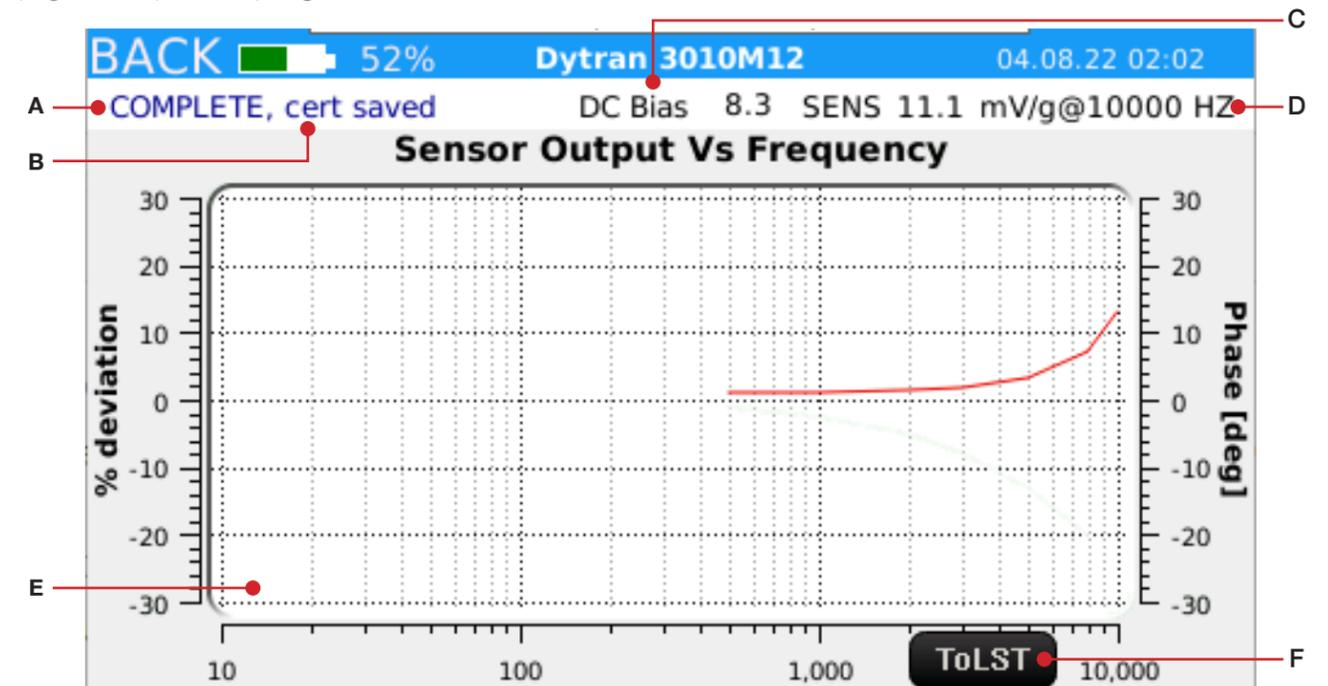
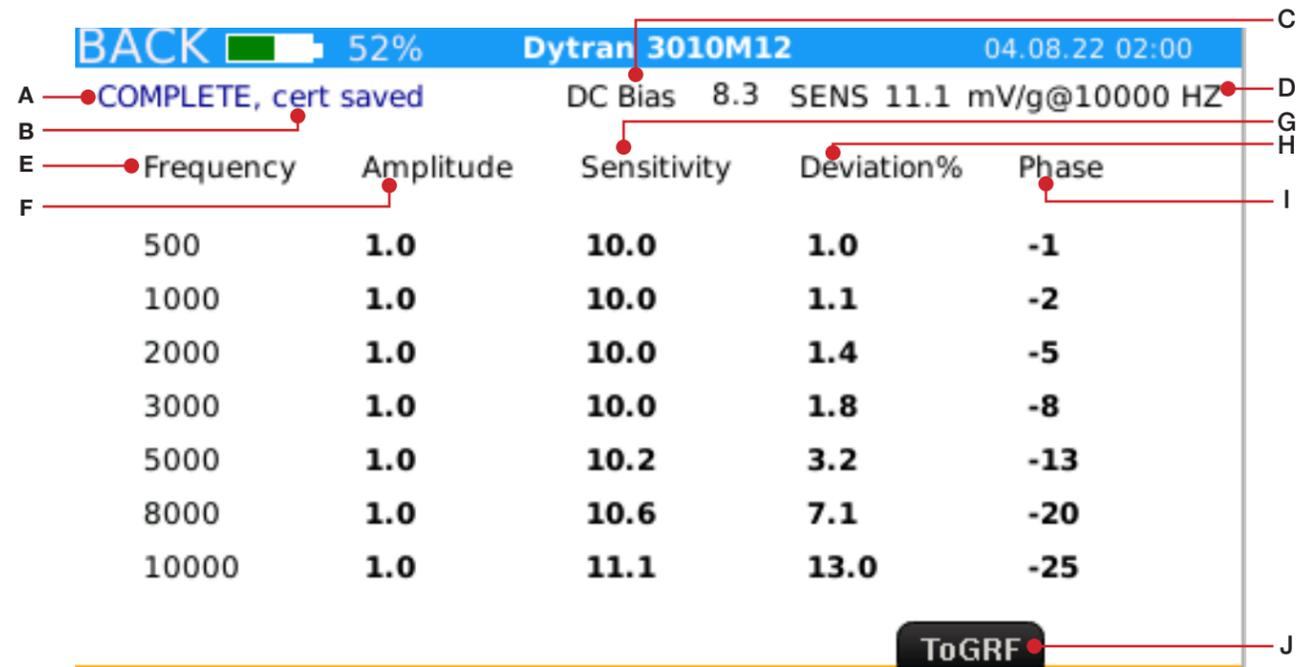

Figure 19. Automatic testing screen – graph view
Figure 20. Automatic testing screen – table view
During an automatic test, the test status bar at the top and the graph (*Figure 19*) or table (*Figure 20*) show progress information.
- F. **ToLST Button:** Select the button to switch to table view in real time (*Figure 20*).
10. **ToGRF Button:** Select the button to switch to graph view in real time (Figure 19).